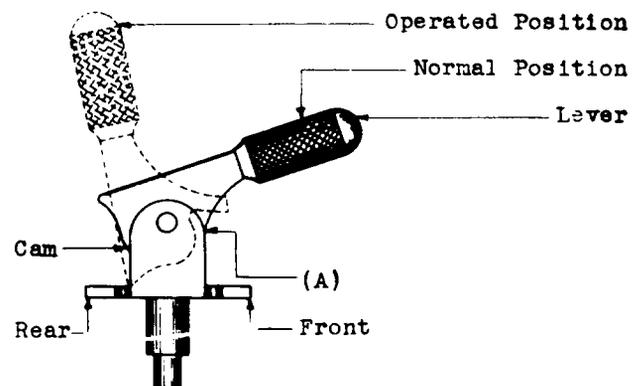
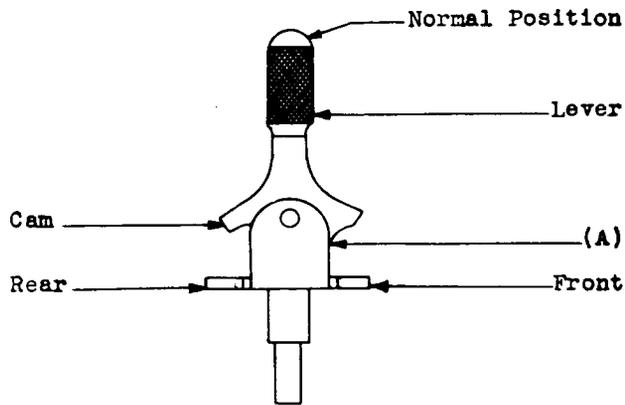

Fig. 1 - 6A Key Lever
Fig. 2 - 23A Key Lever
1.07 *Operated position of a key equipped with a 6A or similar type key lever* is that position in which the lever is in the extreme rear position (Fig. 1), with all normally closed contacts open and all normally open contacts closed.
(a) Fig. 1(A) and Fig. 2(A): On keys equipped with a key lever the cam and the plunger rod shall move freely in their bearings.